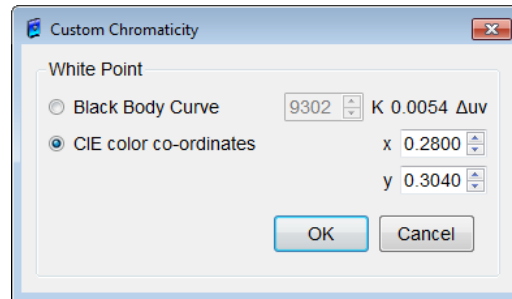

Figure 43: Custom Chromaticity dialog box
Shows the target color temperature (K) and color chromaticity (x, y), when executing calibration. The optimum value is displayed according to the selected calibration mode and depend on the display model. If an individual color temperature or chromaticity target (x,y) setting is required, click the **Edit** button. The **Custom Chromaticity** dialog box, as shown in **Figure 43**, will be displayed.